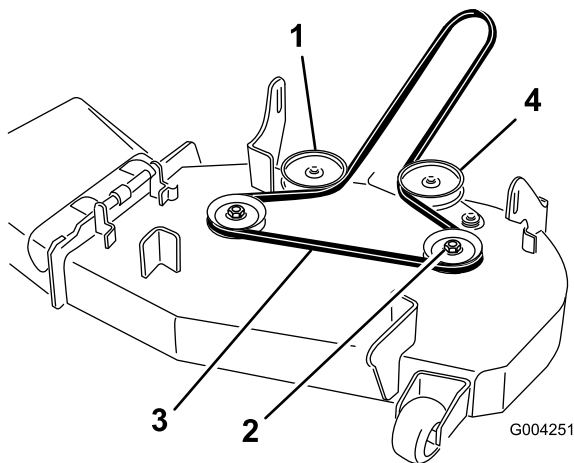
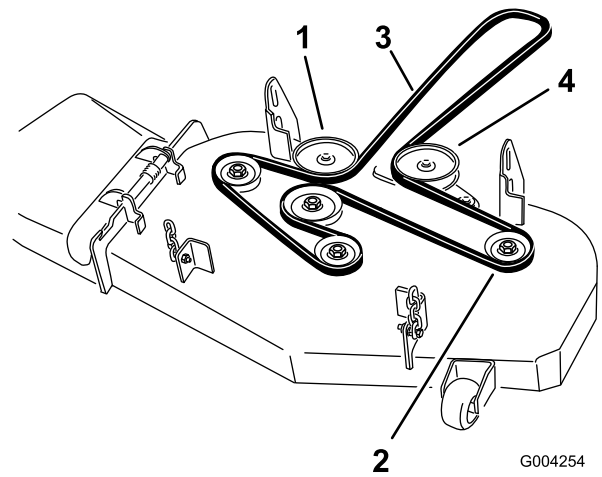

Figure 43
Figure 44
4. Pull on the idler arm to relieve the belt tension on the left spindle pulley (Figure 43 or Figure 44).
6. Install the new belt around the pulleys (Figure 43 or Figure 44).